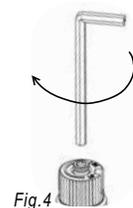

Fig. 4
- 13) Using the Allen wrench as shown in Fig.4, rotate the screw clockwise until snug, do not over-tighten.